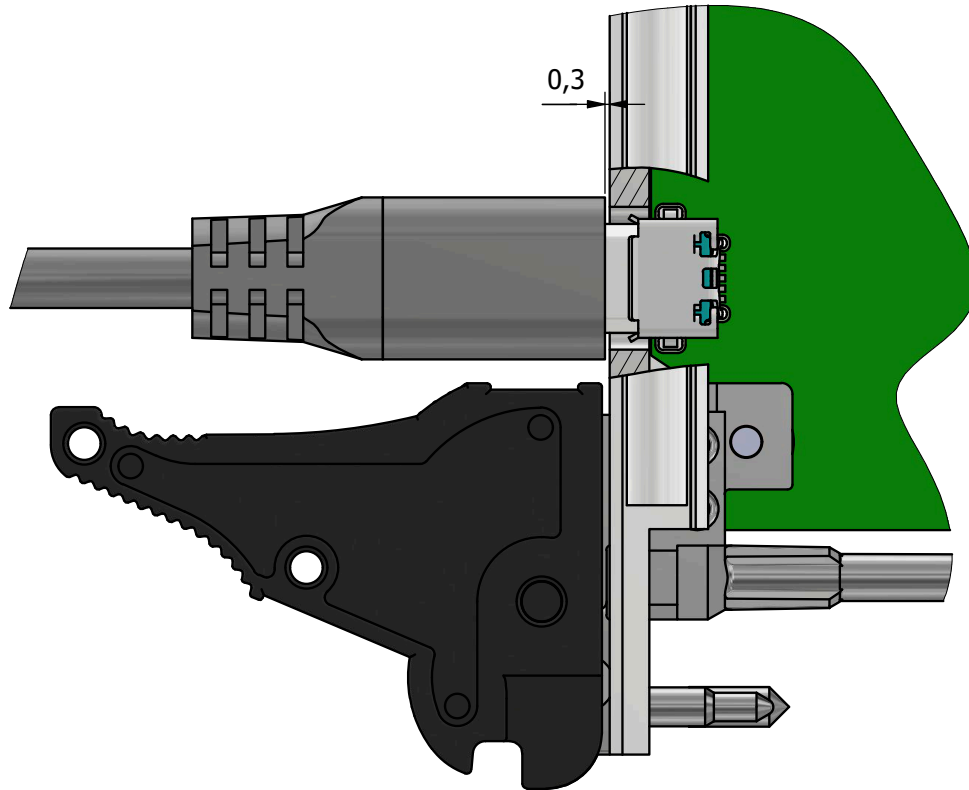

Figure 28: Hirose USB connector and cable assembly
- At least 0,3 mm clearance between USB cable and front panel, as shown in Figure 28